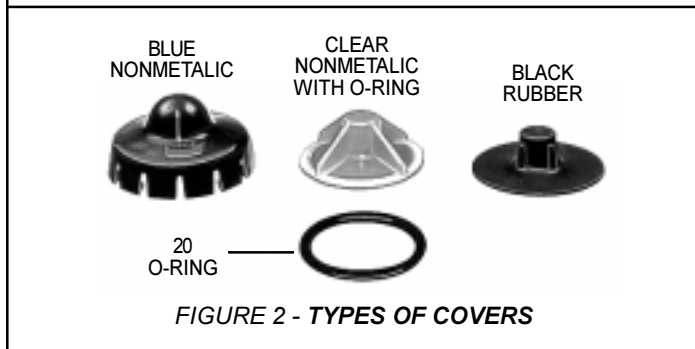

FIGURE 2 - TYPES OF COVERS
3. If the governor has a blue nonmetallic cover, (refer to Figure 2) hold governor with one hand, with the other
hand grip cover from the top and pull up with thumb until cover disengages from the governor body. If top cover on governor is made of rubber or clear nonmetallic material unscrew cover until it releases from the adjusting screw (4) of governor. Remove o-ring (20, Figure 2) if present. **Note:** O-ring (20) is used on Hi-Temp and waterproof governors only.
4. With a pair of retaining ring pliers, remove the spring assembly retaining ring (1) and save.
5. Pull the adjusting screw (4) and spring assembly out of the governor body (2).
If cover provided in kit is black rubber, (refer to Figure 2) install by pushing it onto the adjusting screw.